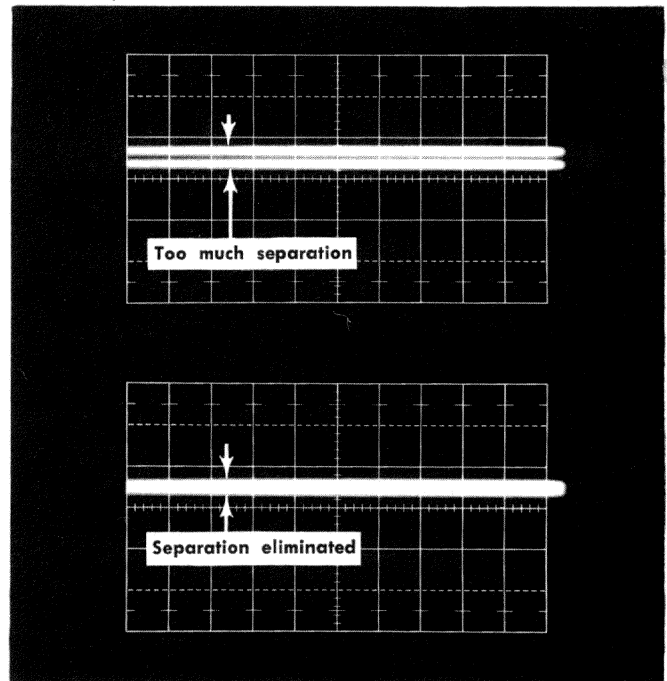

Fig. 5-5. Noise waveform, step 8. Sweep rate 5  $\mu\text{s}/\text{div}$ ; deflection factor 1 mV/div.
- GR 5× attenuator (item 17)
- Two GR 10× attenuators (item 18)
h. Decrease the + TRANSITION AMPLITUDE to a point where the dark line between the two traces is just eliminated. Use Fig. 5-5 as a guide. (The desired presentation is obtained when a point is reached where doubt exists as to whether the dark line is or is not eliminated.)